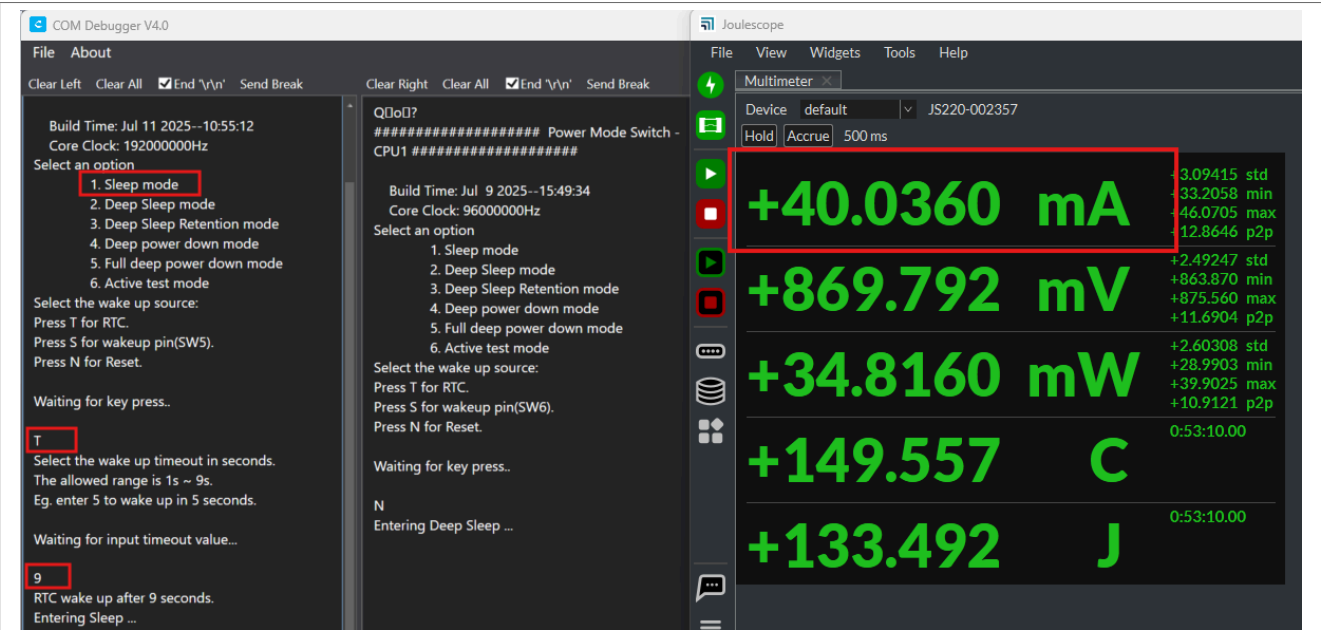

Figure 12. Demo output and power consumption observed on MIMXRT700 EVK
- After the demo boots successfully, log from both CPU0 and CPU1 COM ports is displayed, as shown in Figure 12. The default setting is DSP_CLK = 192 MHz and VDD2 = 0.9 V. To initiate power-saving modes, input the characters '2S' or '2N' in the CPU1 COM port to set the Sense domain into Deep Sleep mode. Then, input the characters '1S' or '1T9' in the CPU0 COM port to transition CPU0 CM33 into Sleep mode. During this time, HiFi4 continues running an FFT operation. To observe the power consumption of VDD2, as illustrated in Figure 12, measure the JP1 current on the MIMXRT700 EVK board. For accurate power measurements, use tools such as Joulescope or any other reliable digital multimeter.